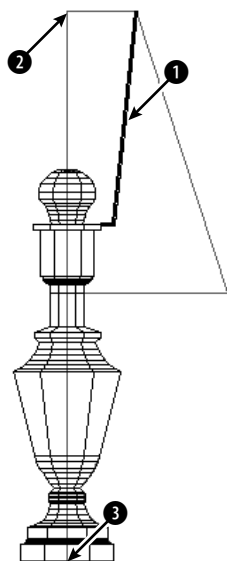

Figure 24-27: A partially completed lamp.
2. Save the file as *ab24-07.dwg* in your AutoCAD Bible folder. You see part of a lamp, as shown in Figure 24-27. Make sure **OSNAP** is on. Set a running object snap for endpoint.
Select objects: *Select the support at ❶ in Figure 24-27.*